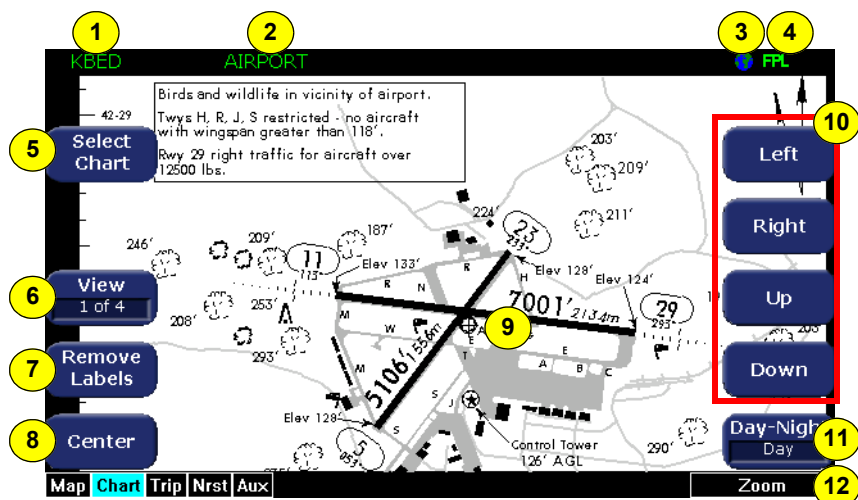

Figure 8.1 2-Knob Chart Page
10) Pan Knobs or Movement Buttons—On 2-Knob systems, use the buttons on the right-hand side of the display labeled Up, Down, Left, and Right to manually move the chart on the screen (as shown in Figure 8.1).
11) Day/Night button—Toggles the chart display mode between the Day and Night modes. The Day display is black text on a white background, while the Night display is white text on a black background. Other colors such as water or shaded terrain are also adjusted between Day and Night modes. The EX500 starts up with a default to Night mode. In a 2-knob EX500, the Day/Night button is on the bottom right corner (shown in Figure 8.1).